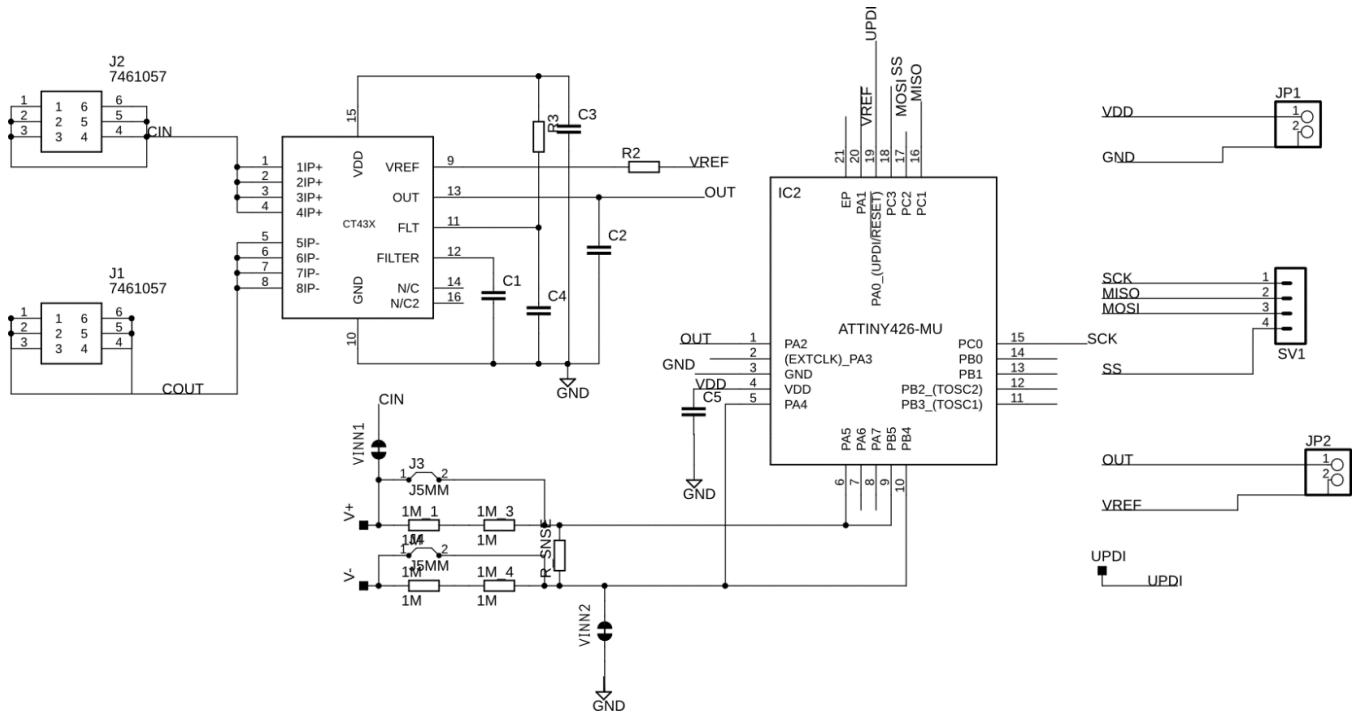

Figure 12: Power Meter Module schematic
The recommended decoupling and filtering capacitors are explained in the CT43x datasheet. Only two (2) CT43x differential outputs, OUT and VREF pins, are connected to the ATtiny microcontroller. The step-down resistive circuit consists of four (4) 1.0 MΩ resistors for providing an isolated voltage measurement across the R_{SNSE} resistor. See Figure 12, the Power Meter Module schematic diagram.